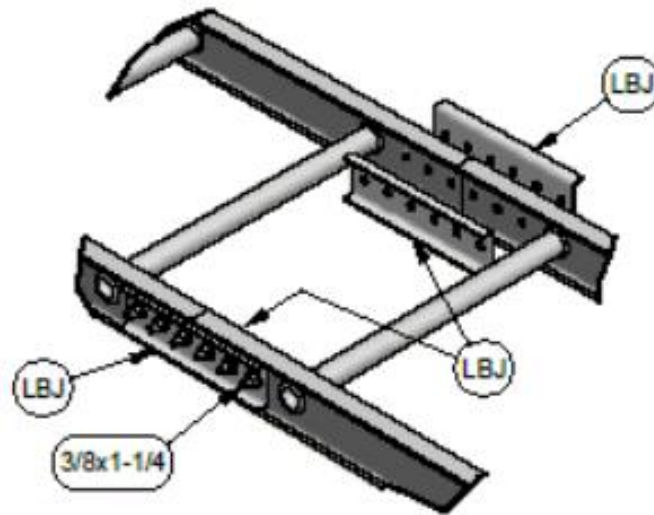
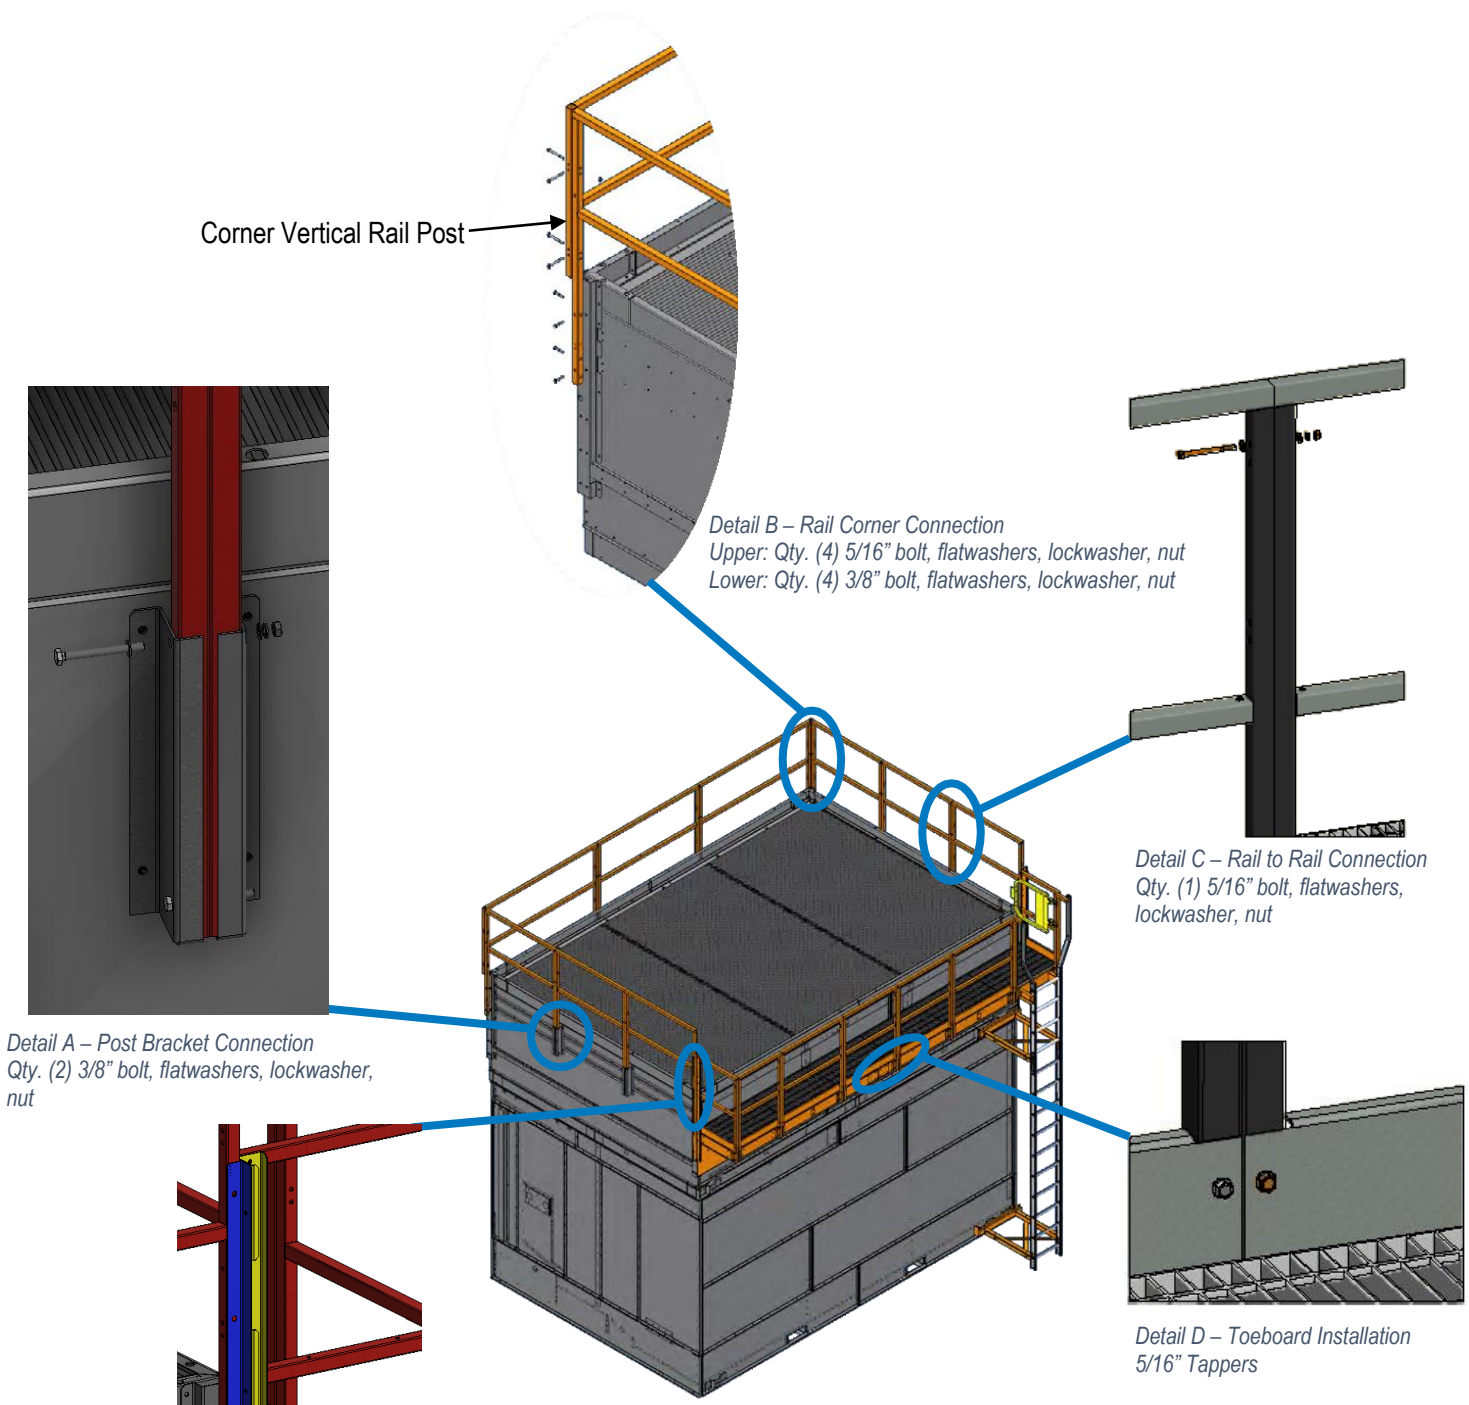

Figure 11. Ladder Splice
Figure 12. Typical Handrail Installation
3. Loosely fasten the lower and intermediate appropriate ladder brackets and diagonal braces to the factory installed ladder brackets as shown in **Figure 11** and **Figure 12**. Check your submittal for the ladder orientation ordered.
4. If the ladder is shipped in two sections assemble ladder sections together using supplied hardware. The shorter ladder section will be installed towards the top of the unit. See **Figure 11**.
5. Attach the ladder to the platform and fasten the lower and intermediate brackets to the ladder side rails as shown in **Figure 11** and **Figure 12**.